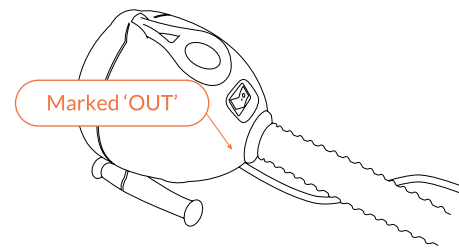

Fig 9 – Inflate (marked OUT on pump)
4. Before plugging to an AC socket, ensure that the Bravo OV10 pump is in inflate mode (Fig 9). The pump is clearly marked OUT where the inflation hose must be attached for inflation, ensure it is in this position before following the next step.